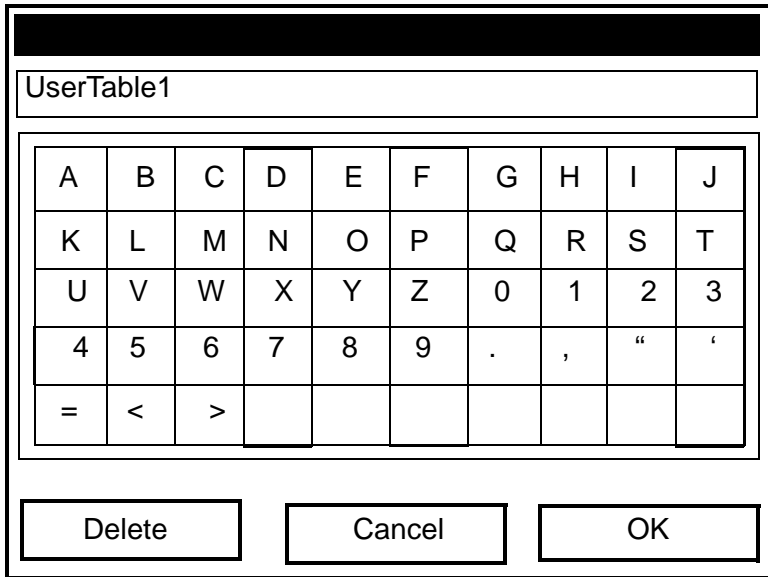

Figure 7-9: The Text Creation Window
- a. Press [ENTER] to open the window. The screen now appears similar to Figure 7-9 below.